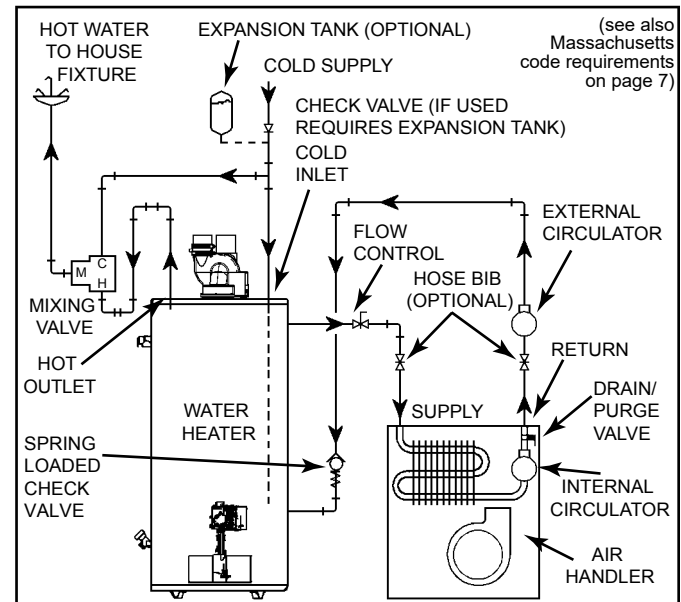
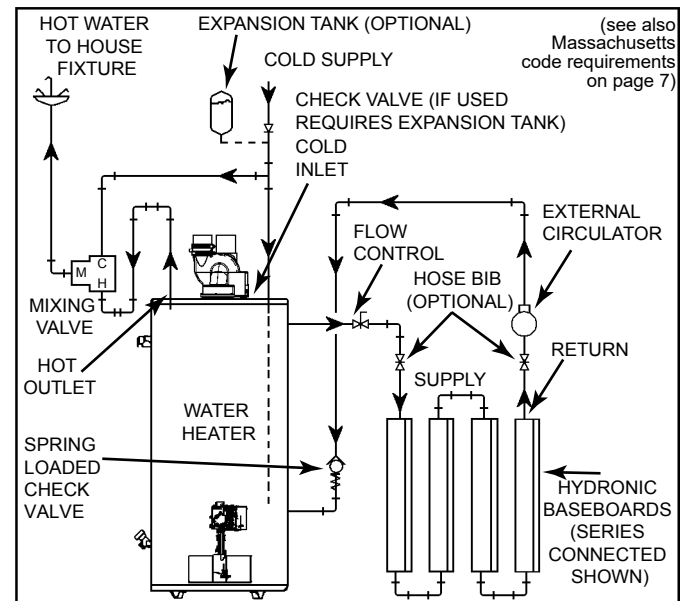

Figure 14.
Figure 15.
8. “Combo” Heating Systems require higher water temperatures than other applications. When the system is used to supply water for Combo Heating applications, a means, such as mixing valve, must be installed to temper the water in order to reduce scald hazard potential (see Figure 14 and Figure 15).
- A. A fan coil/air handler (Figure 14).
- B. A hydronic baseboard (finned tube) loop/In floor heating (Figure 15).